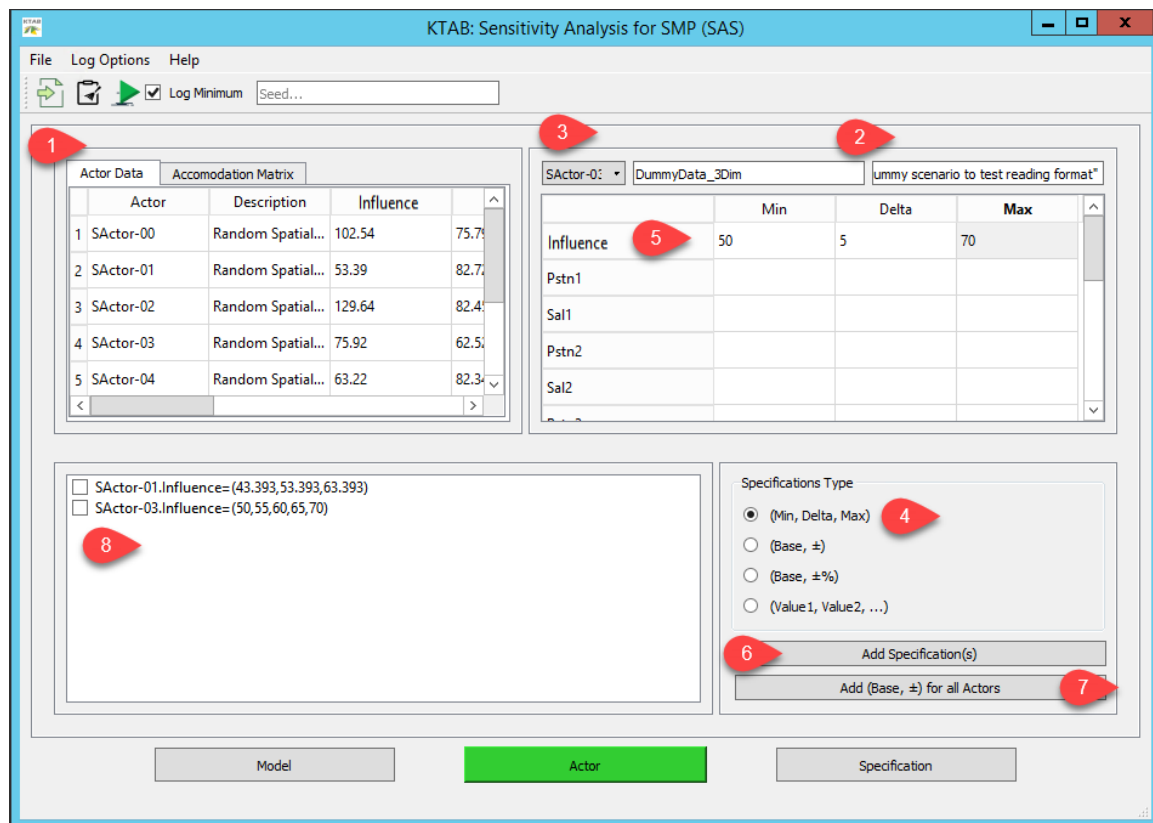
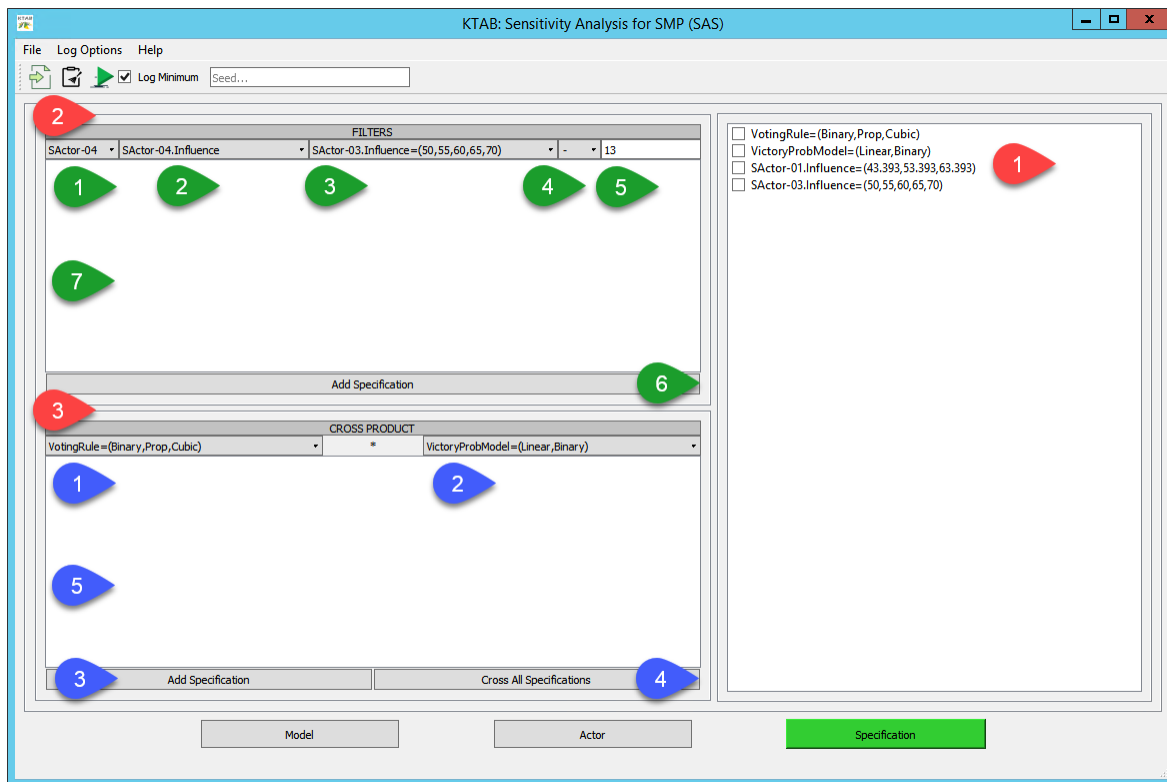

Figure 5 - Actor Specifications Page
Figure 6 - Specifications Page
enumeration of values. In Figure 5, two defined specifications can be seen. The first is a *(Base, ±)* type, which was designed for the influence of actor SActor-01 with the  $\pm$  delta set to 10. The second was defined as a *(Min, Delta, Max)* specification for actor SActor-03's influence, with values (50, 5, 70).
The last page consists of three major sections, shown in Figure 6 - Specifications Page. This is where all defined specifications ultimately reside, and where more complex – and interesting – sensitivity analysis specifications can be defined. All complex specifications are of the form (*item1, item2, ...*) = (*(item1\_value: item2\_value, ...), (item1\_value: item2\_value, ...), ...*), where an item can be a *parameter* or *actor.attribute*.
A logical and important use for sensitivity analysis is testing the sensitivity to jointly-varying actor attributes. For example, perhaps SActor-03 is a pivotal actor in bargaining in a model run. It's natural to test the sensitivity of the results to his attributes – perhaps we want to see how the results change as his influence is allowed to decrease from ~75 to 70, then 65 and down to 50. This is what the 4th defined spec does (see Figure 6). Note in Figure 5 that SActor-04's influence is approximately 13 less than SActor-03, and suppose that there is some underlying correlation between their influences, such that if one loses influence, so would the other. A Filter specification can be defined to model precisely this kind of jointly-varying behavior. The numbers below refer to the green markers in Figure 6.
Instead, what will often make more sense is to simultaneously vary these two specifications over all the possible combinations of their values. This would be called a “factorial design”; Cross Product specifications do precisely this. The numbers below refer to the blue markers in Figure 6.